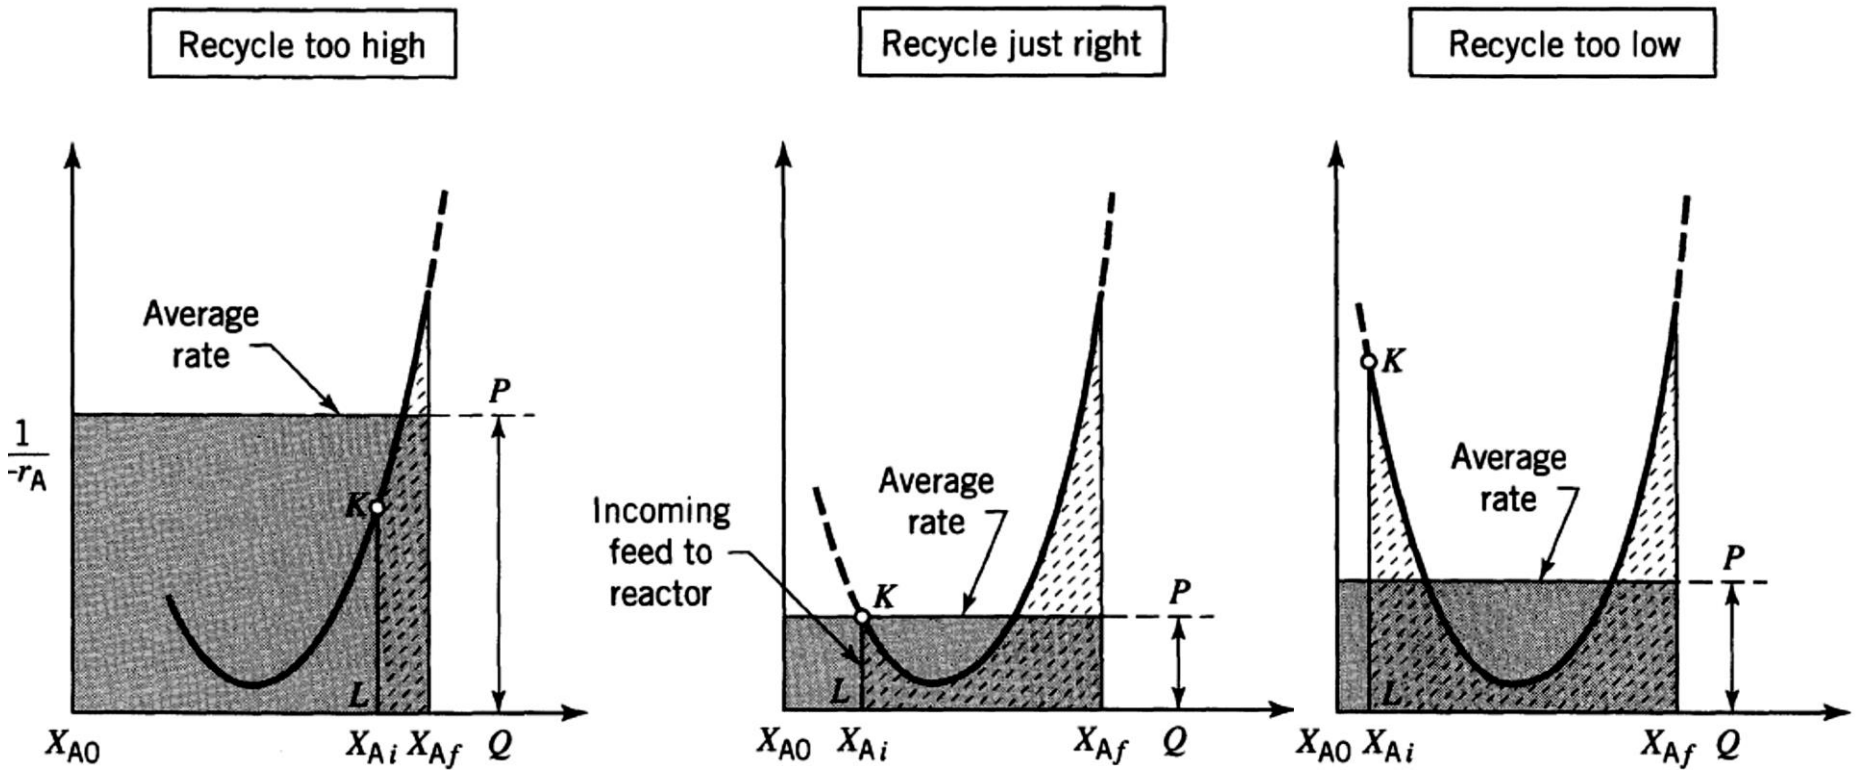

Figure 7-3 Correct recycle ratio for an autocatalytic reaction compared with recycle ratios which are too high and too low.
- The optimum recycle ratio introduces to the reactor a feed whose $1/(-r_A)$ value (KL in Fig. 7-3) equals the average $1/(-r_A)$ value in the reactor as a whole (PQ in Fig. 7-3).
- Figure 7-3 compares this optimum with conditions where the recycle is either too high or too low.